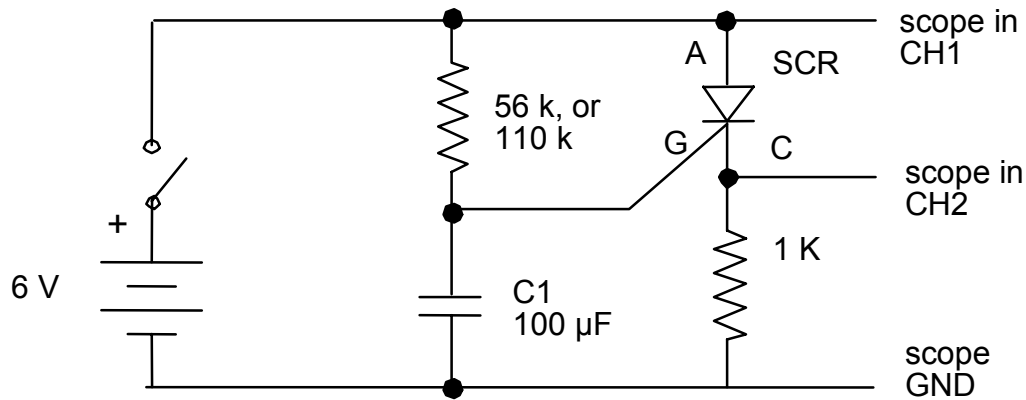

Figure 3-8 RC Timer
☛ The circuit in Figure 3-8 switches on a voltage across the load after a delay. The SCR switches on when the gate voltage (G) exceeds the cathode voltage (C). The gate voltage is developed across the capacitor C_1 by the R - C combination.